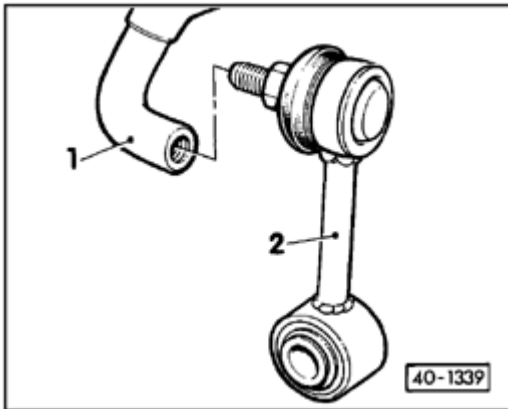

Fig. 13 Stabilizer link, removing from stabilizer bar (27 mm dia.)
- ◆ Bolting to and from stabilizer bar ⇒ Fig. 13